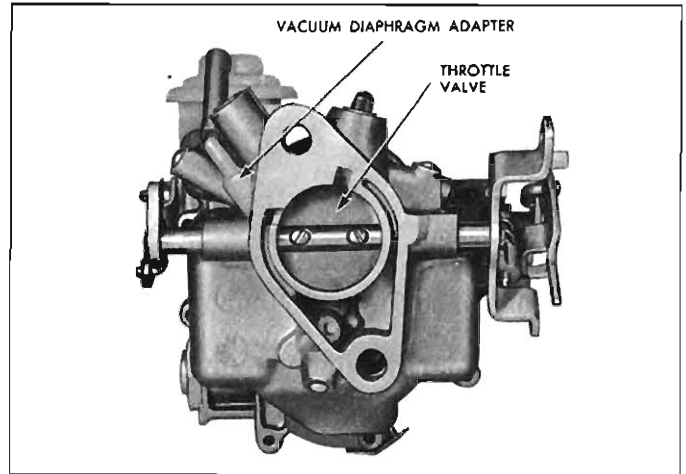

Fig. 9-4—Carburetor—Bottom View
15. If necessary, invert carburetor bowl and remove throttle valve retaining screws (fig. 9-4) and remove throttle valve and shaft assembly.